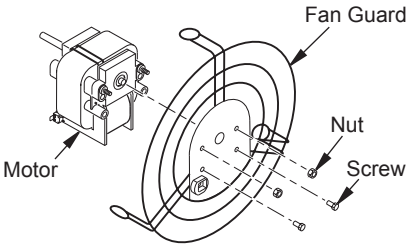

Figure 11 - Removing or Attaching Fan Guard from Motor
4. Remove two nuts and two screws that attach fan guard to motor using nut-driver. Remove fan guard from motor (see Figure 11, page 8).